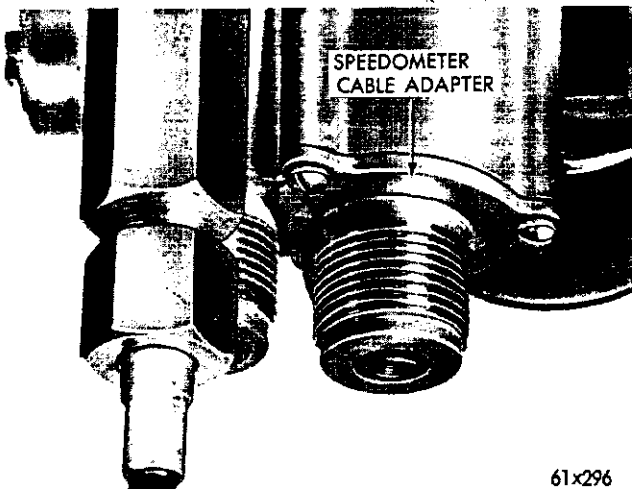

Fig. 50—Assembling the Speedometer Cable Adapter
(1) Lubricate the nylon gear with MoPar Lubriplate, and insert the gear in the housing on the bottom of the drive mechanism. Install the speedometer adapter and attach with the three screws (Fig. 50).